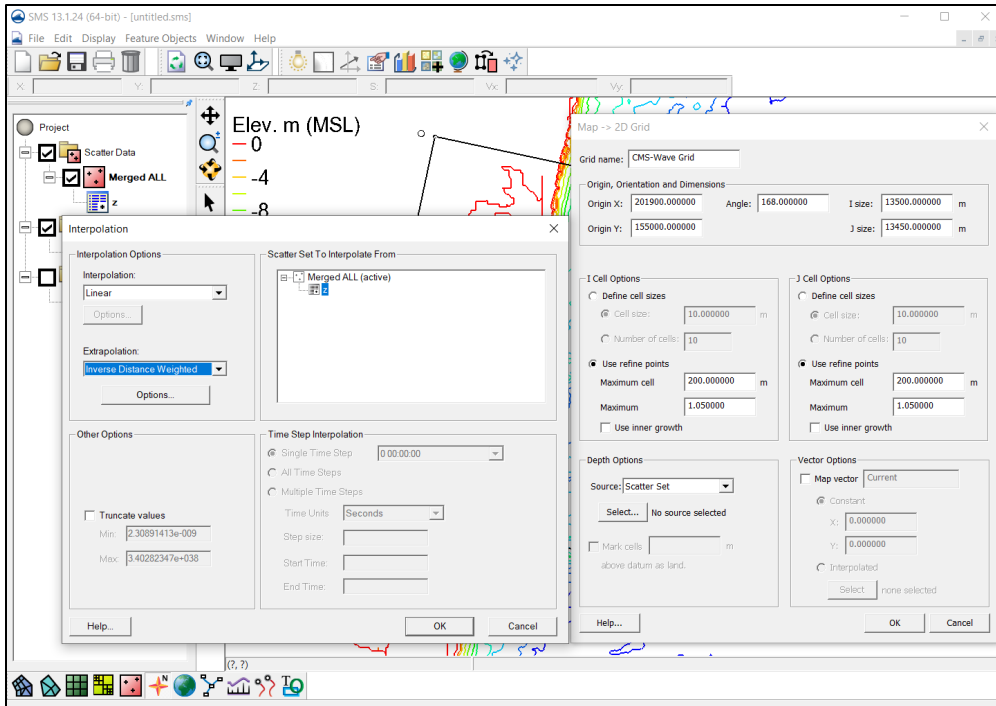

Figure 11. Display *Interpolation* dialog.
- Then, click **Select...** to bring up the *Interpolation* dialog (Figure 11).
- In the *Interpolation Options* section, select “Linear” (the default) from the *interpolation* drop-down and “Inverse Distance Weighted” from the *Extrapolation* drop-down (Figure 11).